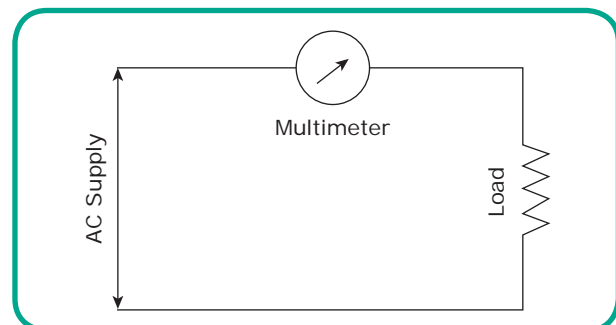

Figure 10.13 AC current Measurement
5. While measuring AC current, as like the measurement of DC current, the meter should be connected in series with the supply and the load as shown in Figure 10.13. Polarity need not be considered as like in measuring AC voltage.